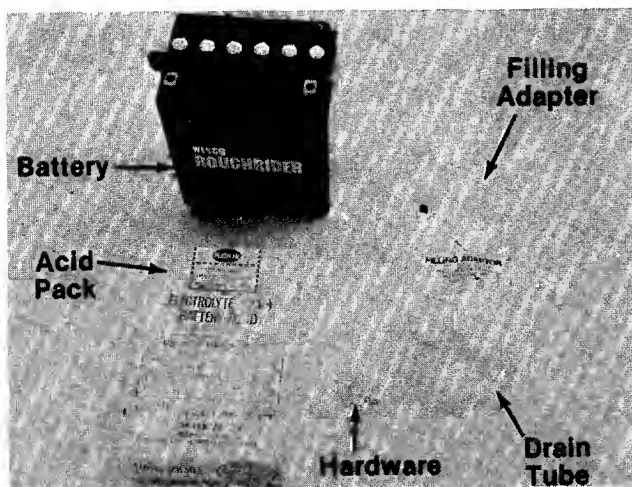

FIGURE 2.
- ← 1. Upon opening the battery pack, you should receive acid pack, battery, drain tube, filling adapter and hardware. See figure 2.